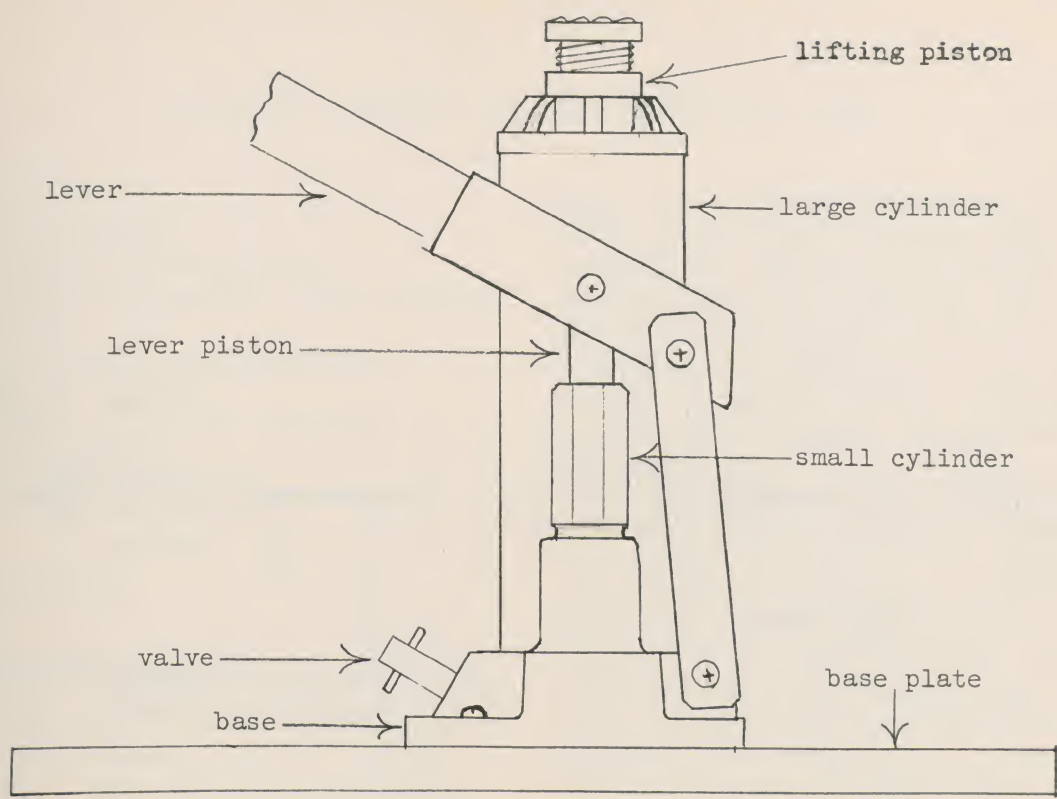

Figure 1.
- a) Drill holes in the base and screw to a base plate about 12" x 12" or larger (aluminum recommended) to add stability and reduce chances of accident. See Figure 1.